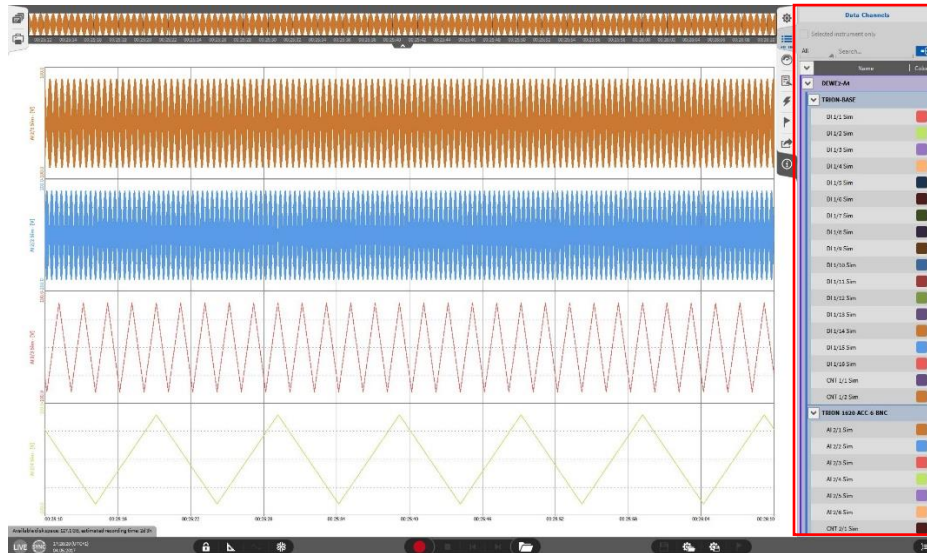
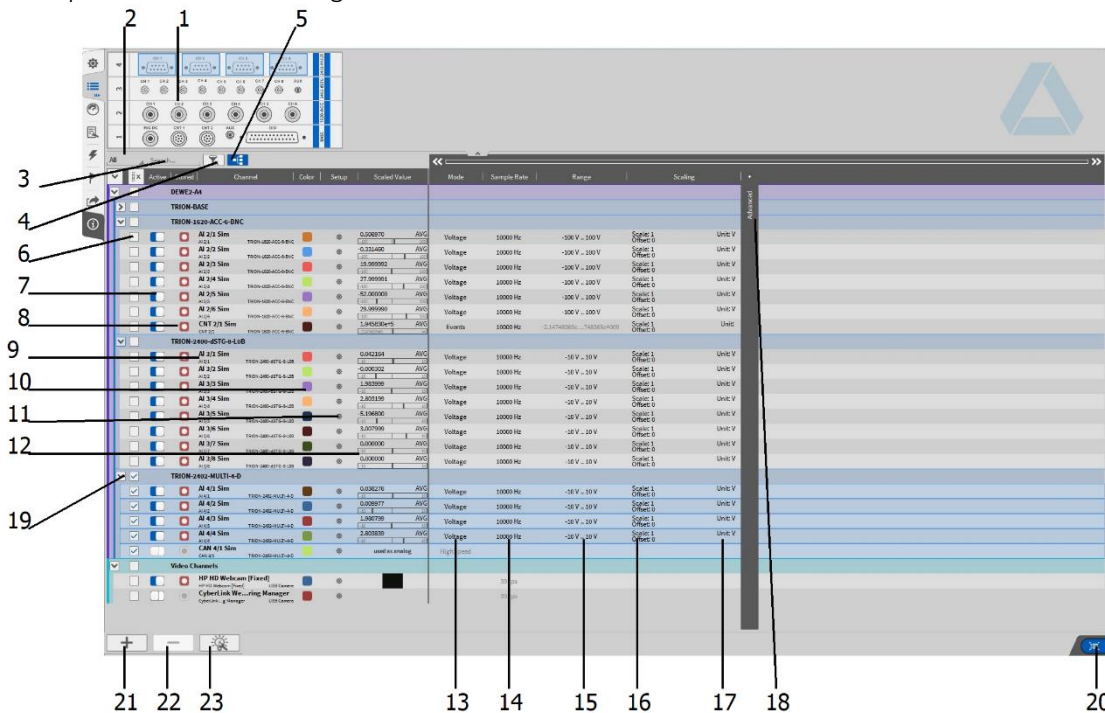
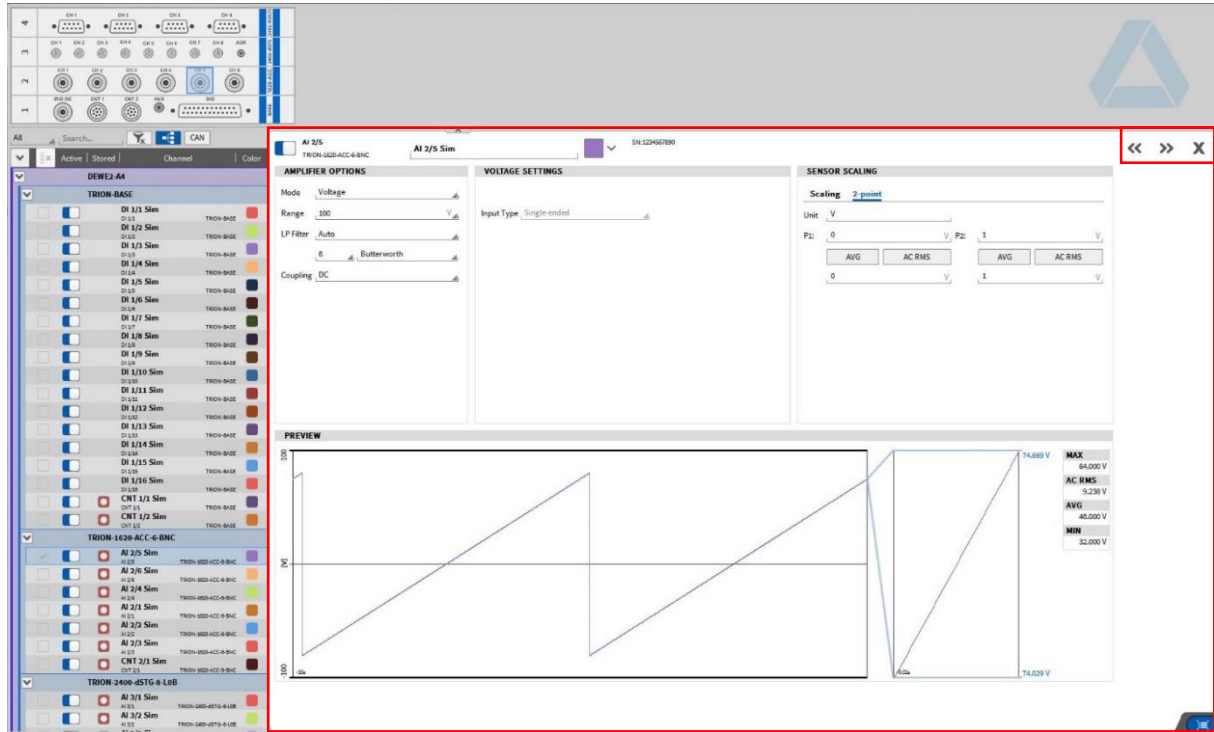

Figure 5-1: Data Channels Menu - Quick view
Figure 5-2: Complete Data Channels menu
Figure 5-18: Channel Setup of a TRION™-1620-ACC channel
A single click on the *Data Channels* menu button will open the quick view where the user can see the activated hardware channels (see Figure 5-1). Expanding the menu to the full screen by keeping the button pressed and moving the mouse to the opposite side of the screen will open the full data channel menu that can be seen in Figure 5-2. The full channel list and the connected hardware with the individual settings can be checked and manipulated here. The functionality of the individual buttons will be explained in the following section.
To change the individual channel settings in the *Data Channels* menu that can be seen in Figure 5-2 just click on the desired parameter with the left mouse button and a popup window will appear. If a parameter can be changed or not depends on the channel type (i.e. it's not possible to change the range of a digital channel) and the selection of the parameters depends on the TRION™-Card (i.e. different Input Modes). For illustration, the following figures will show the different options that are available with a TRION™-1620-ACC card.
All channel settings (except the sample rate and the bit rate) can also be changed in the individual Channel Setup (see Figure 5-18) which can be accessed via pushbutton (11) (see Figure 5-2 or Table 5-1).